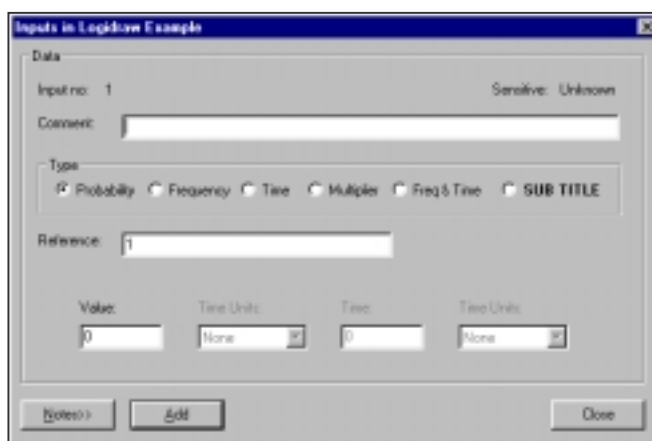

Figure 2 Logidraw Inputs dialog
1. Click the Add Input button or select Data/Inputs/Add from the menu. This opens the Inputs dialogue box (see Figure 2) for entering the Description of an input (Comment Box) and the numeric data describing it (Value).